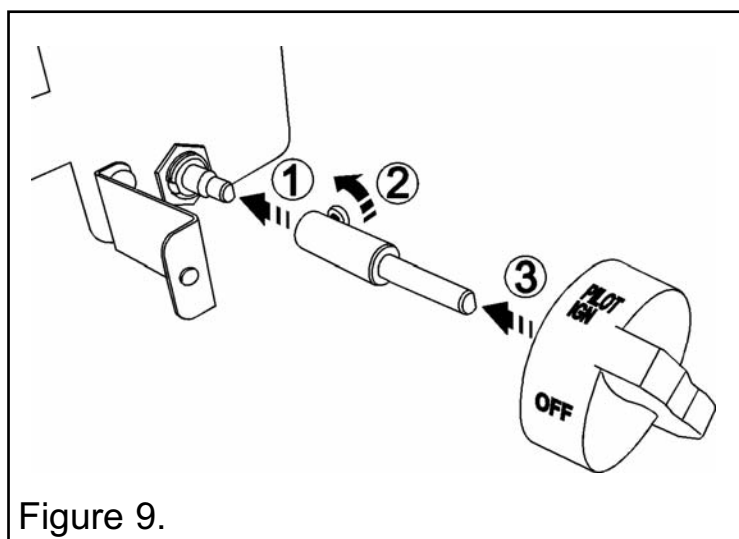

Figure 9.
- Locate the control knob spindle extension onto the gas tap spindle as in figure 9 ensuring that the 'D' form and screw are aligned. Secure in place with the screw.